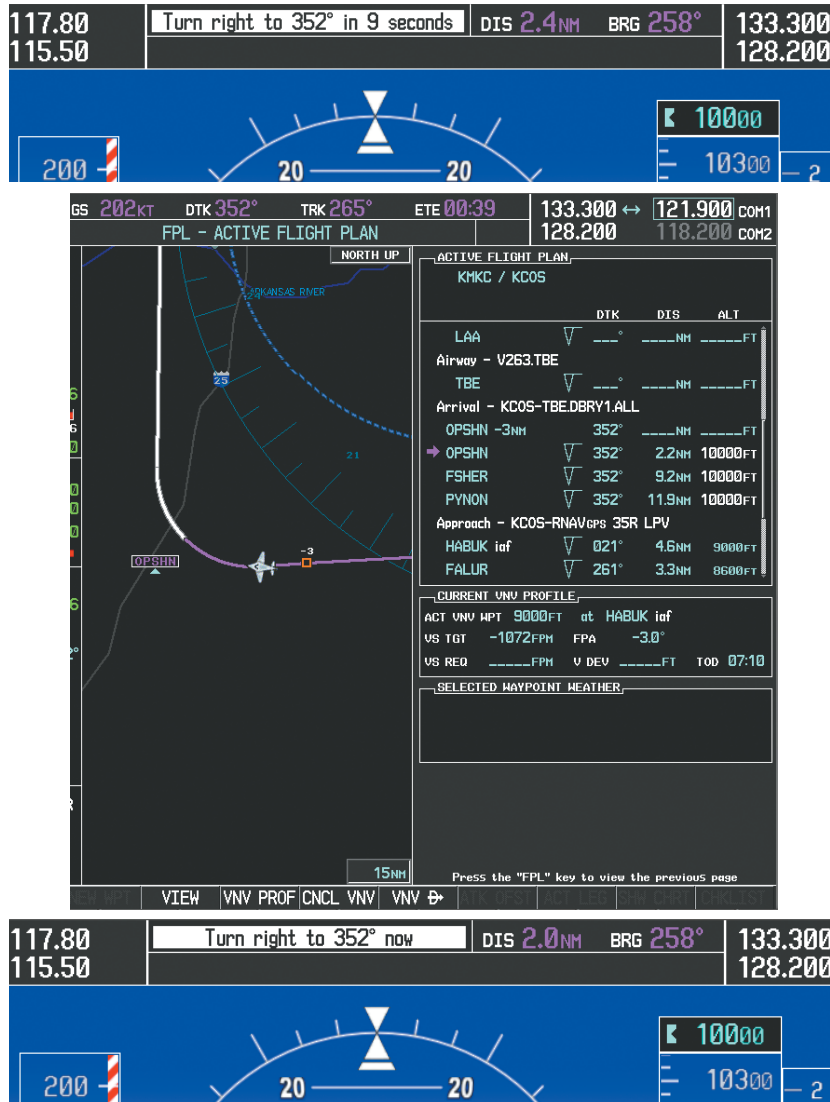

Figure 5-143 Turn to intercept OPSHN to FSHER Leg
- 18) The aircraft is approaching OPSHN. The upcoming turn and next heading are announced at the top left of the PFD as seen in Figure 5-143. Initiate the turn and maneuver the aircraft on a track through the turn radius to intercept the magenta line for the OPSHN to FSHER leg and center the CDI.